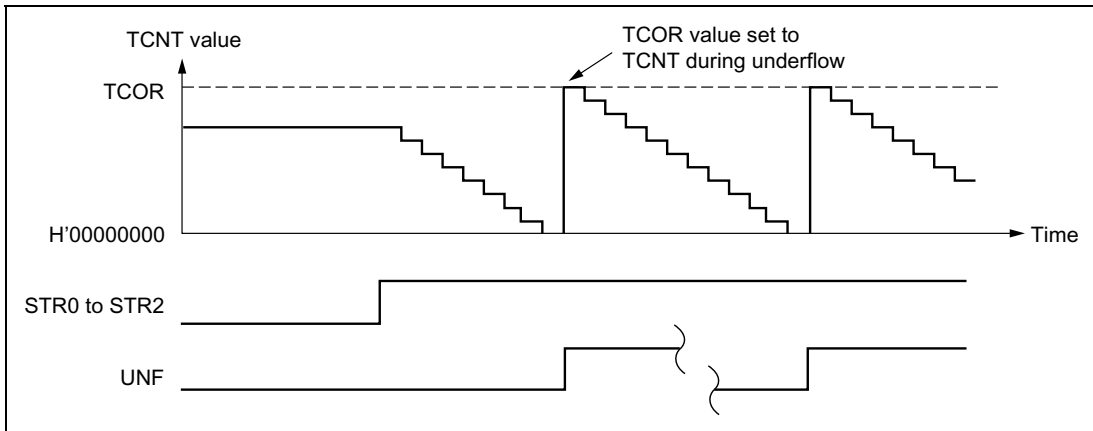

**Figure 15.3 Auto-Reload Counter Operation**
**Auto-Reload Count Operation:** Figure 15.3 shows the TCNT auto-reload operation.